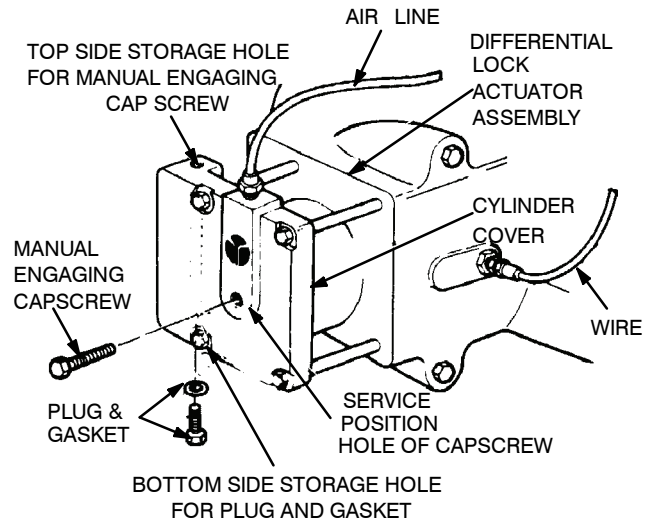

Figure 102.
- (c) Turn the manual engaging capscrews to the right until the head of the capscrew is approximately 1/4 inch from the cylinder cover. **DO NOT** turn the capscrew beyond its normal stop. The capscrew is now in the service position and the main differential lock is completely engaged. Figure 102.